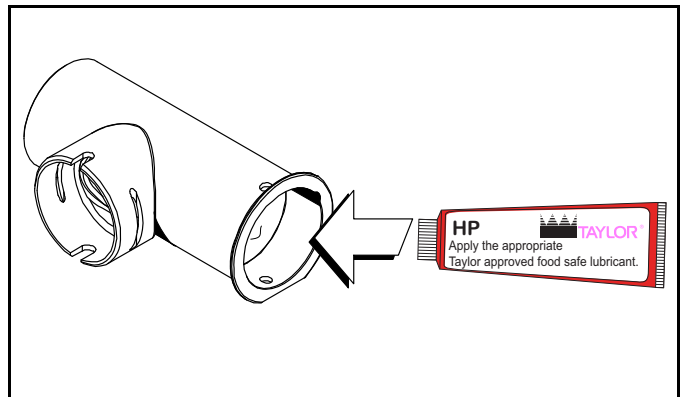

Figure 6-26
3. Apply a thin layer of lubricant to the inside of the pump cylinder at the retaining pin hole end. (See Figure 6-26.)